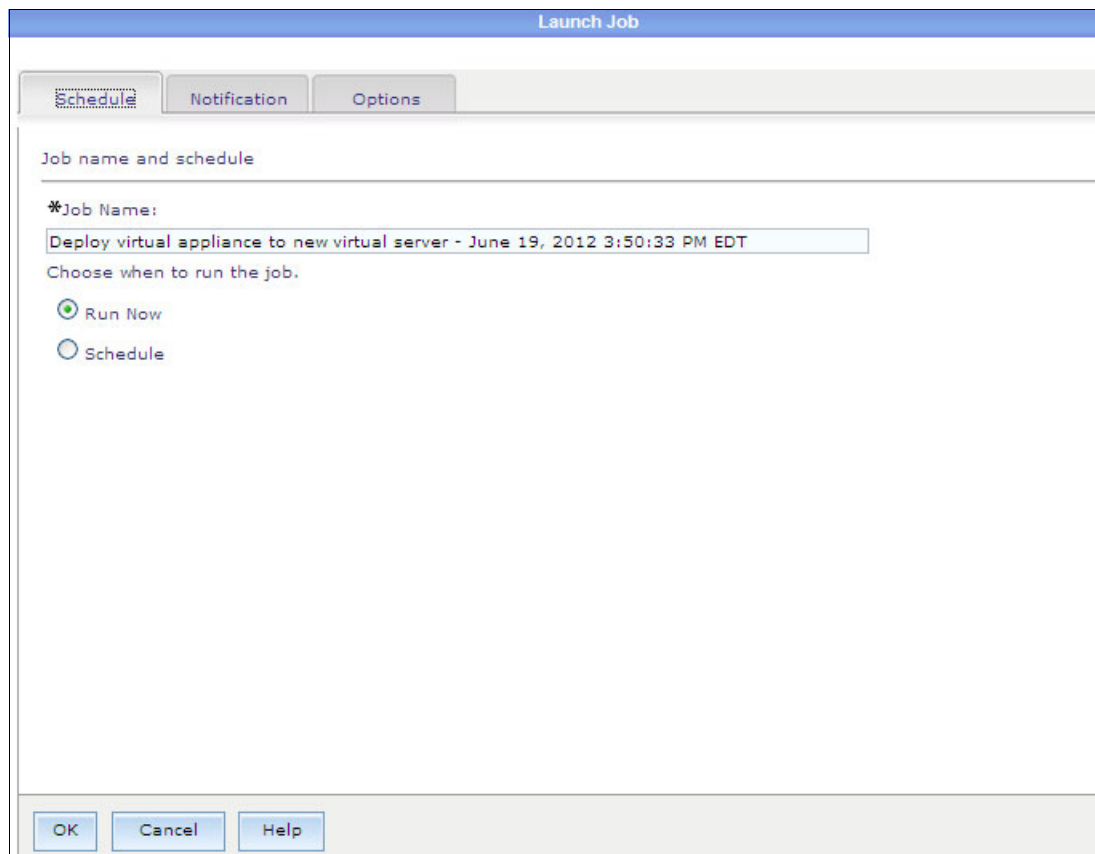

Figure 10-137 Launch Job menu
11. Figure 10-137 shows the Launch Job menu. Click **OK**.